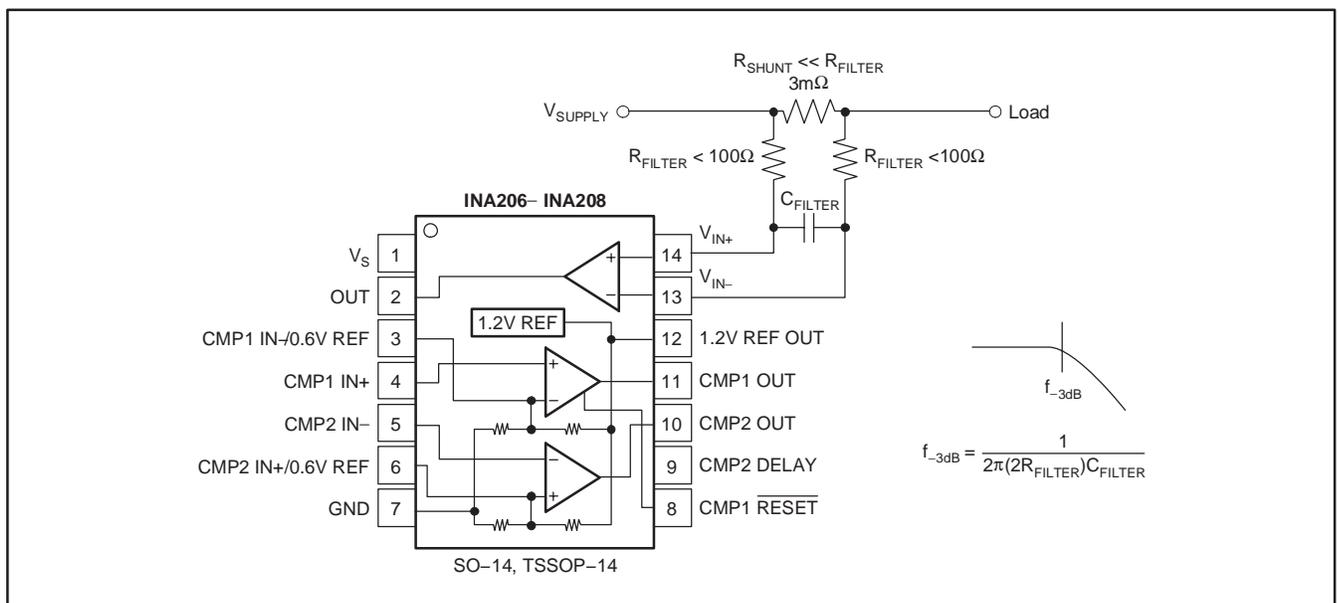

Figure 5. Input Filter (Gain Error – 1.5% to –2.2%)
An obvious and straightforward location for filtering is at the output of the INA206, INA207, and INA208 series; however, this location negates the advantage of the low output impedance of the internal buffer. The only other option for filtering is at the input pins of the INA206, INA207, and INA208, which is complicated by the internal $5\text{k}\Omega + 30\%$ input impedance; this is shown in Figure 5. Using the lowest possible resistor values minimizes both the initial shift in gain and effects of tolerance. The effect on initial gain is given by Equation (3):